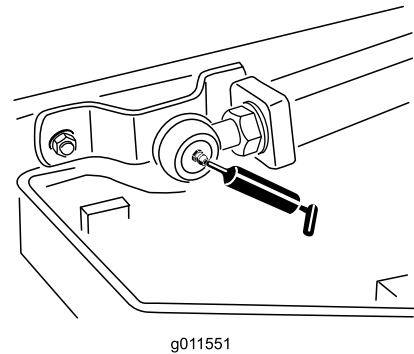

Figure 83
- 2 lift-arm-ball joints (Figure 83)